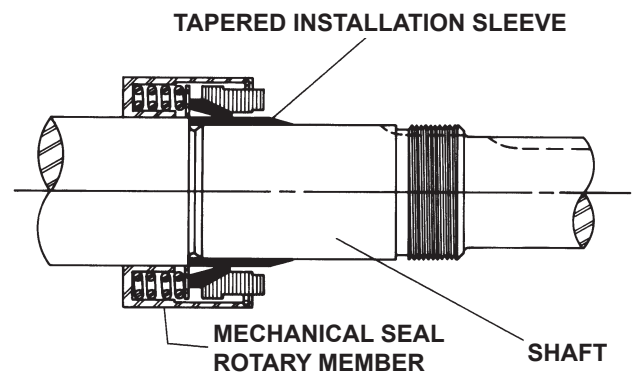

FIGURE 10
4. Start rotary member on shaft and ease over tapered sleeve (**See Figure 10.**)